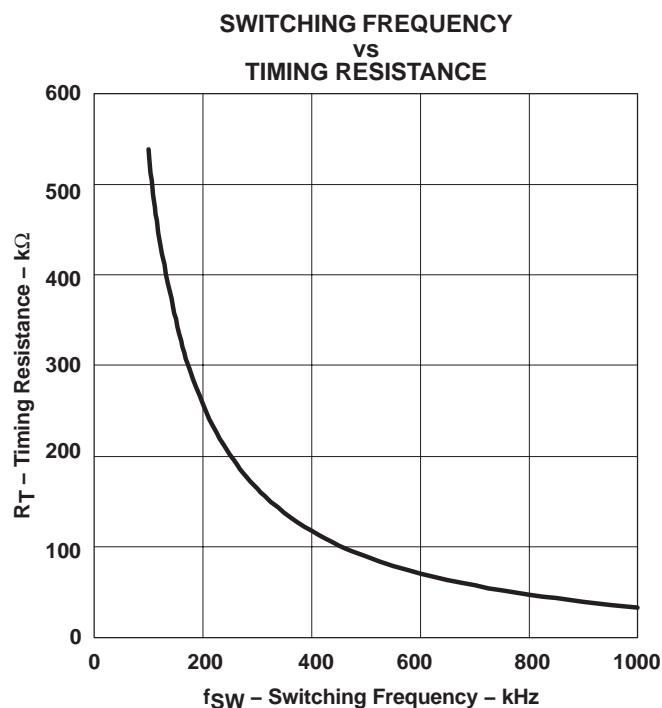

Figure 2
The TPS4005x has independent clock oscillator and ramp generator circuits. The clock oscillator serves as the master clock to the ramp generator circuit. The switching frequency, fSW in kHz, of the clock oscillator is set by a single resistor (RT) to ground. The clock frequency is related to RT, in k $\Omega$  by equation (1) and the relationship is charted in Figure 2.